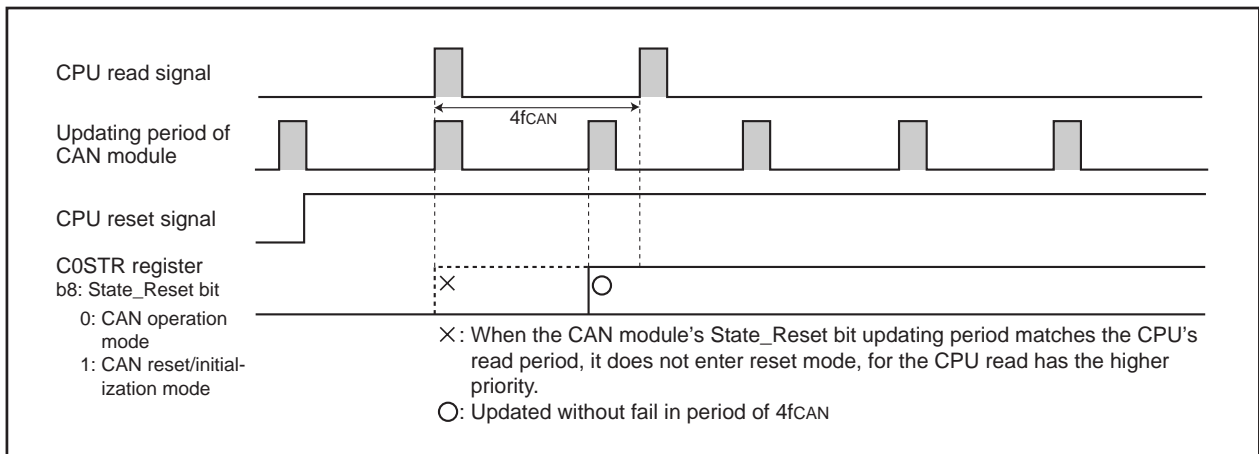

Figure 20.4 When Polling Period of CPU is 3fCAN or Longer
2. When the CPU polls the C0STR register, the polling period must be  $3f_{CAN}$  or longer. (See Figure 20.4)